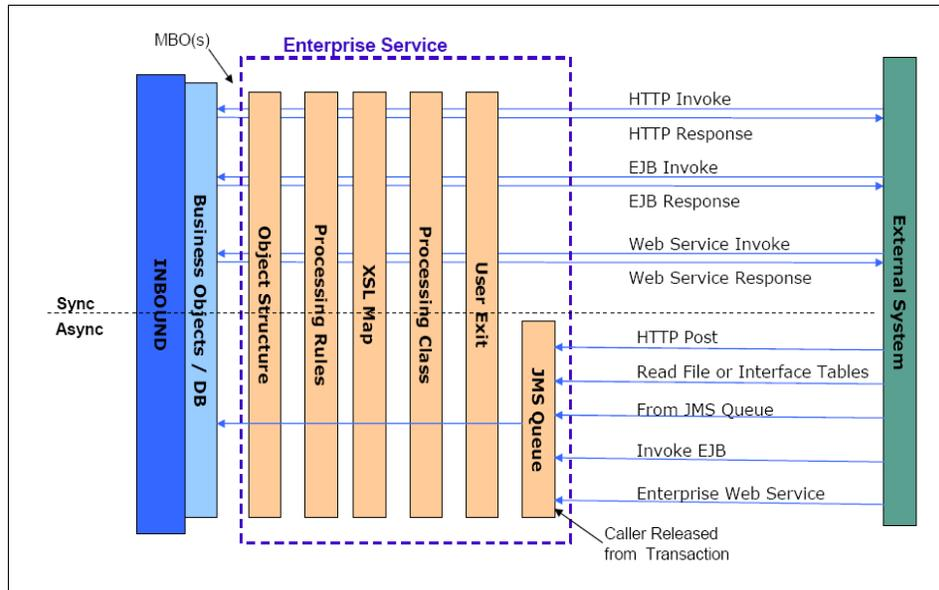

Figure 2-34 Enterprise Services
- Replaces the 6.x inbound interfaces (Figure 2-34 on page 89).